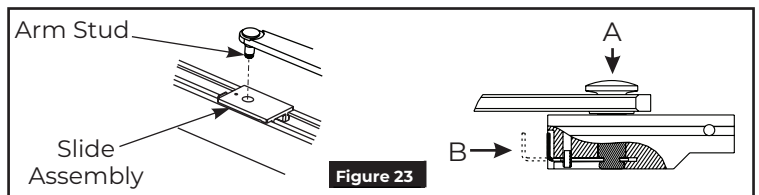

Figure 23
5. Insert stud on arm into slider in track by pressing clip on backside of slider onto stud. (Figure 23)